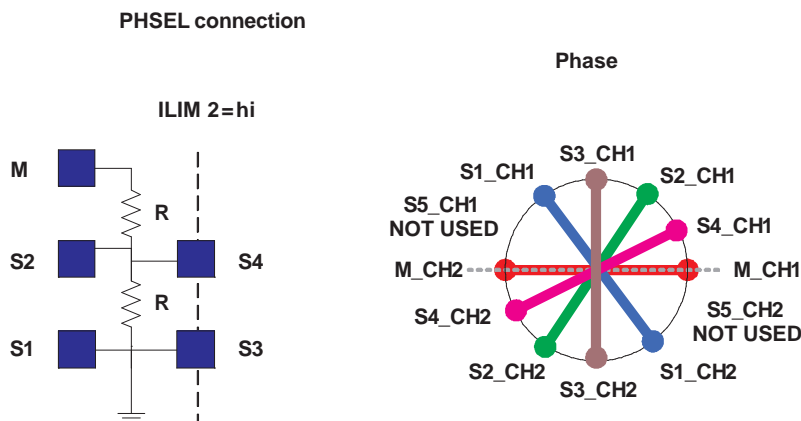

**Figure 5-21. Phase System: 2 Channels of the Master and 1 Channel of the Slave**
Configuring for other than 2, 4, 6, 8, 12 or 16 phases is simply a matter of not attaching one or more slave controllers. The phasing between master and populated slaves is as shown above. For example a 3-phase system could be configured with a master CH1 and master CH2 and 1 phase of a slave. Referring to part (B) above, the 3 phases could be master CH1, master CH2 and slave CH1 or slave CH2 as shown in Figure 5-21.